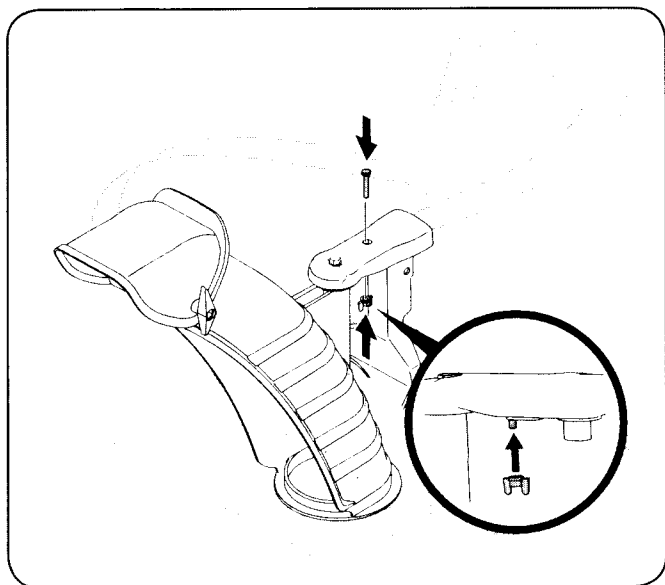

Figure 3-4
3. Finish securing chute control assembly to chute support bracket with wing nut and hex screw removed earlier. See See Fig. 3-4.